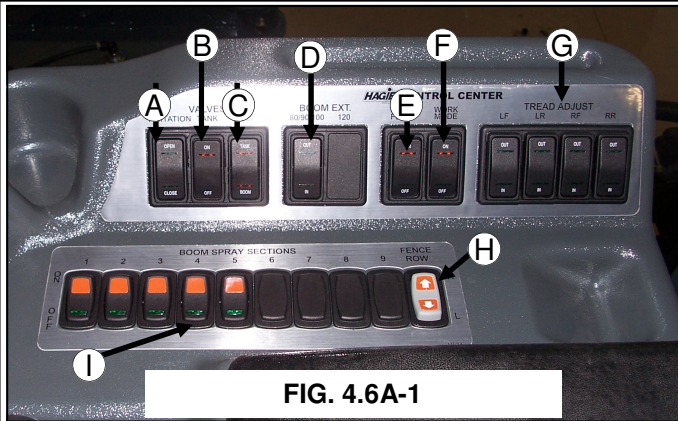

FIG. 4.6A-1
**AGITATION SWITCH-** The agitation switch (fig. 4.6A-1, item A) controls the rate of flow through the sparge system. For more information on the agitation system, refer to OPERATING SYSTEMS section D on the Spray Systems.
**TANK SWITCH-** The tank switch (fig. 4.6A-1, item B) controls the solution tank valve. This switch must be on to spray. For more information on the
**RINSE SWITCH-** The rinse switch (fig. 4.6A-1, item C) is used when you wish to rinse the solution tank or the booms. For more information on how to use the rinse system, refer to OPERATING SYSTEMS section F on the rinse system.
**BOOM EXTENSION SWITCH-** Boom extension (fig. 4.6A-1, item D) switches are used when folding and unfolding the booms. Refer to OPERATING SYSTEMS section C on spray booms.
**WORK MODE SWITCH-** The work mode switch (fig. 4.6A-1, item F) is a safety switch. There are systems connected to this switch that will not function if the switch is not ON and this switch can not be turned on if certain conditions exist. You can not turn the switch on if the machine is not in neutral. The switch controls the functions of the spray system and the booms. This was set up to protect you, the operator, and others from accidentally engaging the spray system while transporting. Be sure that this switch is on before you intend to engage the spray system.
**TREAD ADJUST SWITCH-** The tread adjust switches (fig. 4.6A-1, item G) are used to hydraulically adjust the tread width. These switches will not do anything if you do not have hydraulic tread adjust. For more information on hydraulic tread adjustment, refer to OPERATING SYSTEMS section C on the hydraulic system.
**FENCE ROW SWITCH-** The fence row switch (fig. 4.6A-1, item H) is for the selection of right or left fence row spray nozzle. More information on the fence row can be found in OPERATING SYSTEMS section D on the spray system.
**BOOM SOLUTION VALVE SWITCH-** The boom solution valve switches (fig. 4.6A-1, item I) each control a valve located on the transom and the booms. The valves control the flow of solution through the boom. The boom is broken down into 5 sections (3 sections on a 60' boom), the far left tip being the beginning of section one. See section D under OPERATING SYSTEMS on the spray system for more information.